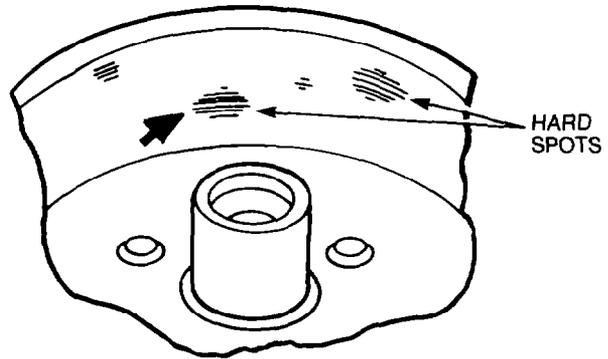

Figure 260 — Brake Drum with Hard Spots
- b. Inspect the brake drum for hard or chill spots, and replace the drum if any hard or chill spots are evident (see Fig. 260).